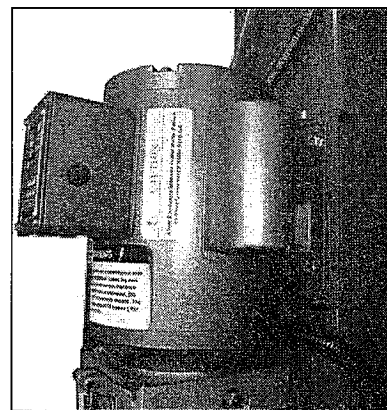

Fig. 17
1. Attach the power unit to the POWERSIDE COLUMN using bolts, nuts and washers supplied (See Fig. 17).